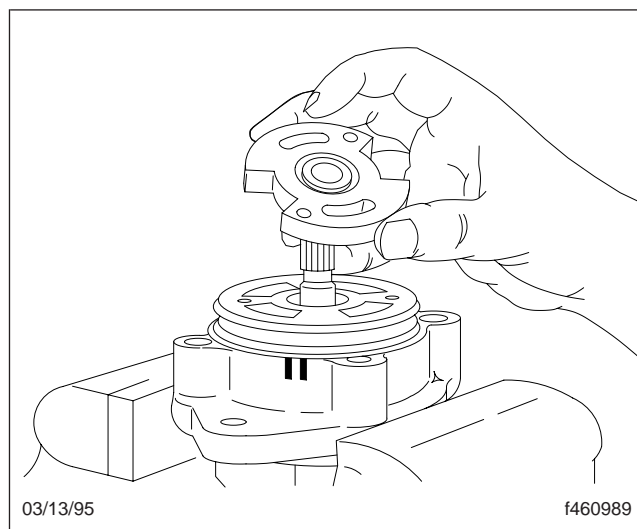

Fig. 13, Removing the Bottom Plate
12. Remove the bottom plate. See Fig. 13.